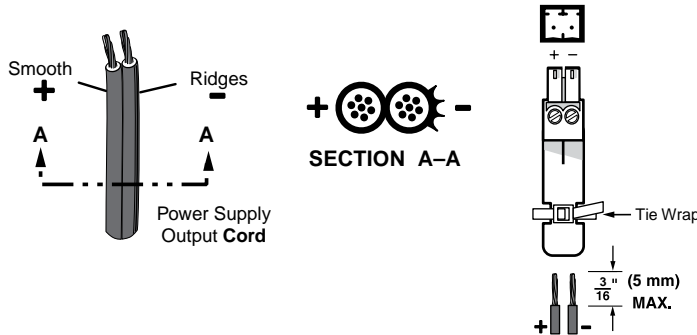

Figure 6. Power Connector Wiring
Figure 6 shows how to wire the connector. Use the supplied tie-wrap to strap the power cord to the extended tail of the connector.
- Power supply voltage polarity is critical. Incorrect voltage polarity can damage the power supply and the unit. The ridges on the side of the cord (see figure 6) identify the power cord negative lead.